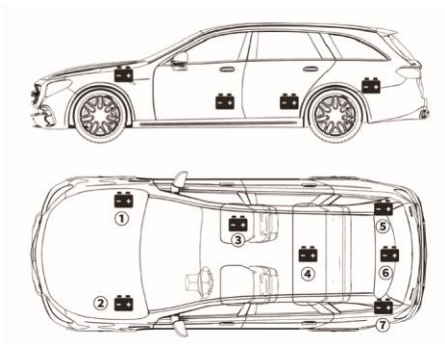

Figure 3.1.1
- 1) Most models hold the battery in the engine bay, under the hood, in one of the front corners. See battery location ① and ② in Figure 3.1.1.
- 2) To balance uneven weight distribution, some manufacturers ⑦ hold the engine in the trunk. See battery location ⑤ , ⑥ , and ⑦ in Figure 3.1.1. In this case, the battery may have a plastic cover that should be removed prior to any testing.
- 3) For some models, the battery might be stored underneath the rear seat. See battery location ④ in Figure 3.1.1.
- 4) For other vehicles, the battery can be located underneath the passenger seat. See battery location ③ in Figure 3.1.1.